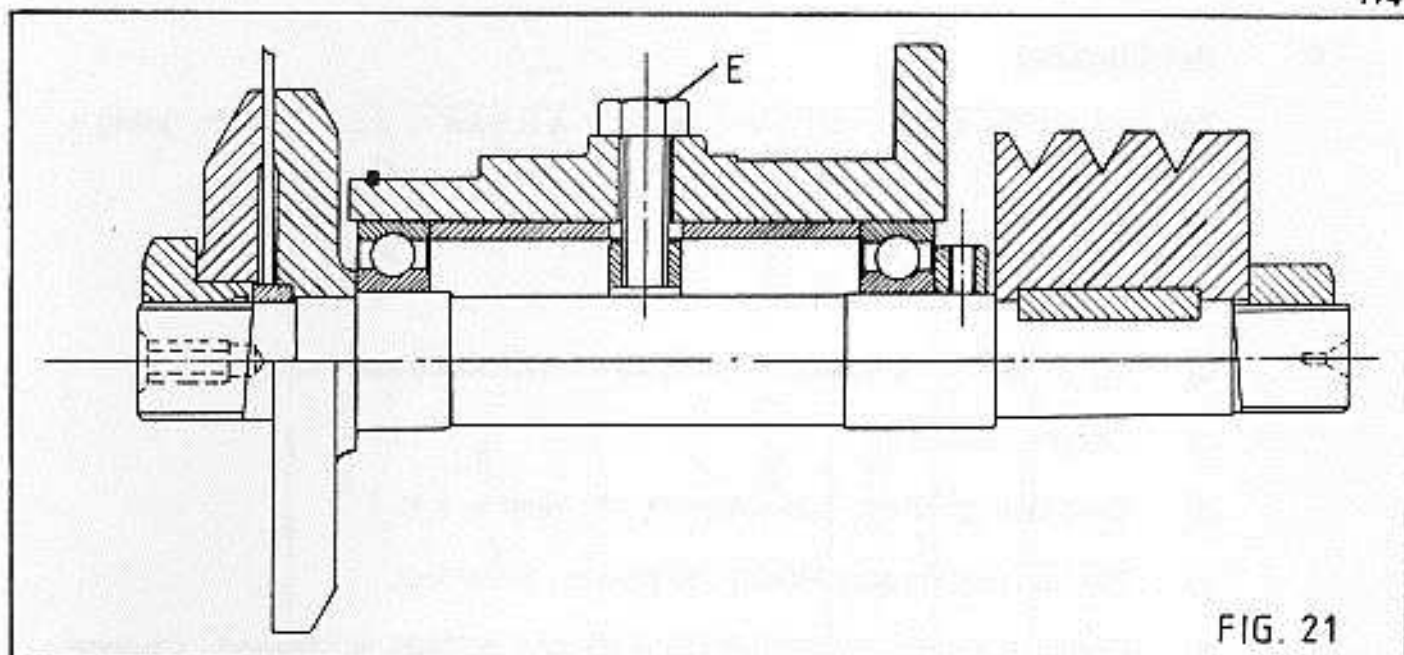

FIG. 21
- d) Loosen hexagon head bolt "E" FIG.21 and tap spindle (with hide face hammer) as required, taking care not to damage the threads on spindle ends.